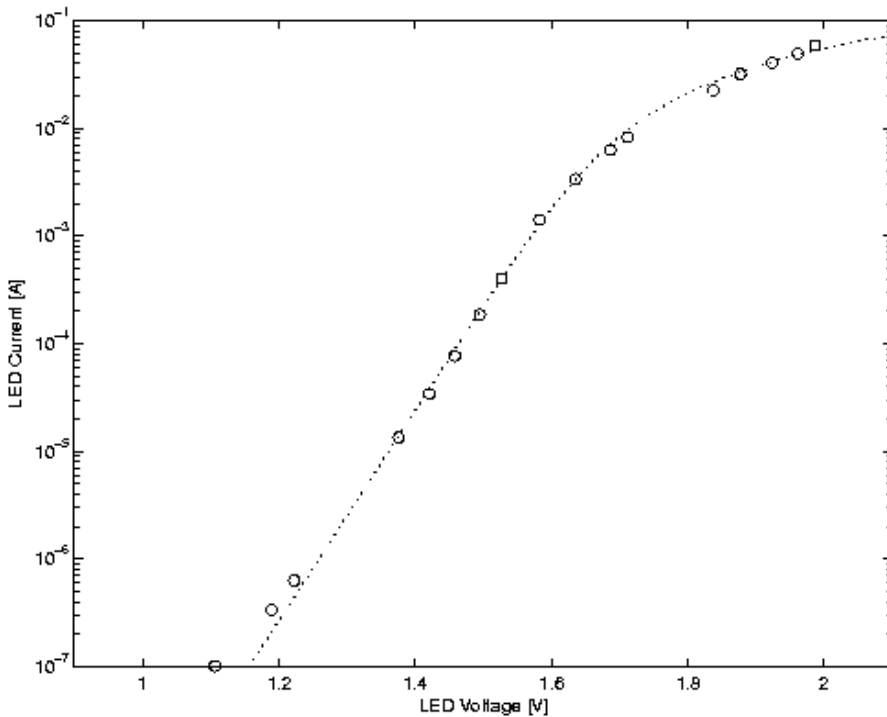

Fig. 6. Measured LED V-I characteristic, comparison to exponential with series resistance.
Fig. 6 shows the measured data plotted relative to the prediction of Eq. (5) (solid line) with $R_s=4.65\Omega$, which was obtained with a least squares fit. Parameters I_s and n were unchanged. It can be seen that the modified theory predicts the actual performance well at both low and high currents.